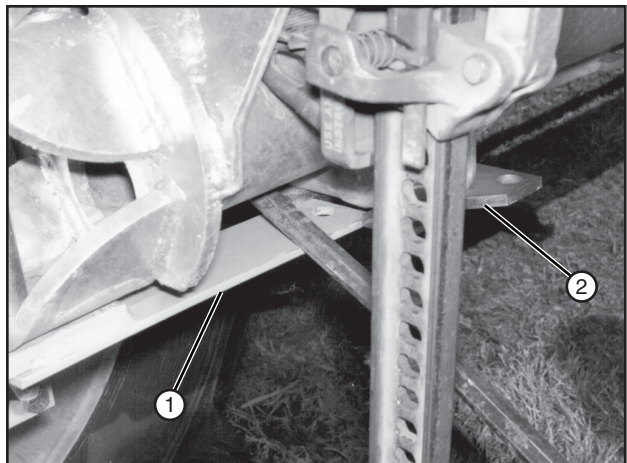

Figure 40-3 1. Steering Arm
7. Make sure the steering arm is latched in the latch plate. See Figure 40-3.